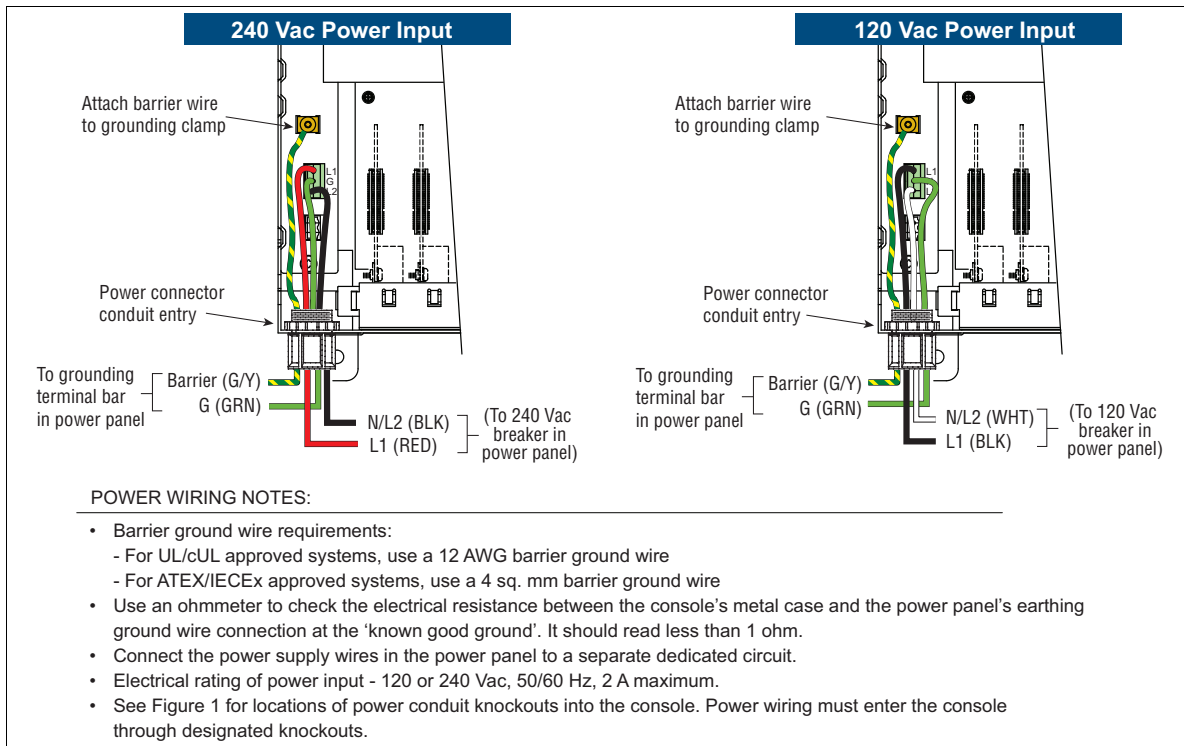

Figure 47. Wiring AC Power To The TLS-450PLUS Console
5. Connect the input 120 or 240 Vac power wires as shown in Figure 47.